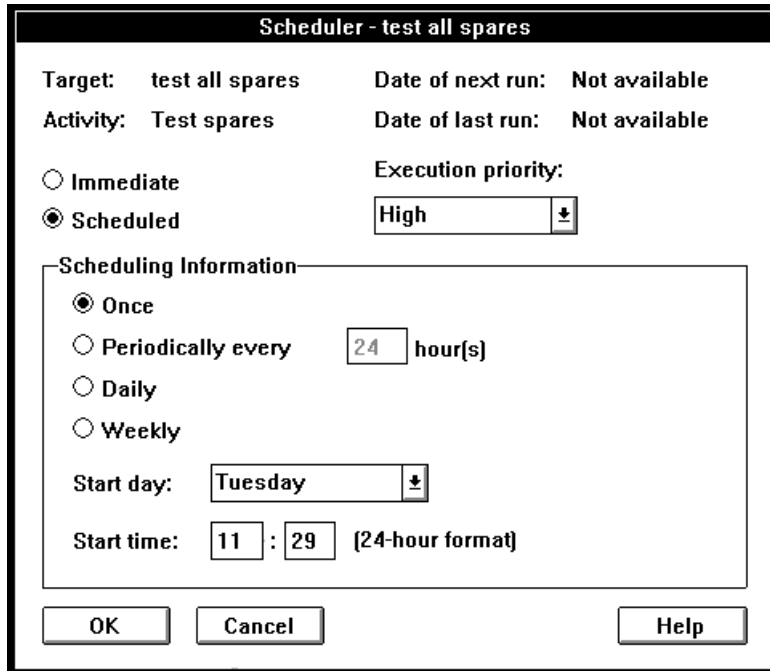

Figure 7-1. Scheduler Dialog Box
- 1 Define a new scheduled operation: Reconstruct an Array, Verify Integrity of Array, or Test All Spares. The Scheduler dialog box appears, as shown in Figure 7-1.
To view more detailed information about the activity, double-click the **Activity** icon. The Scheduler dialog box appears, as shown in Figure 7-1. Click **Cancel** to close the dialog box.